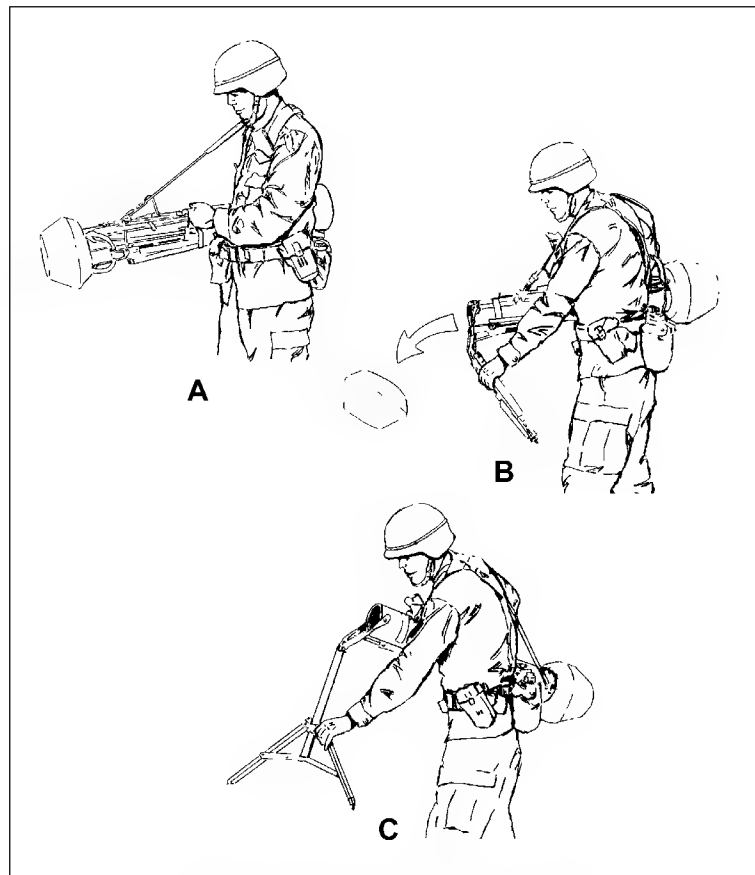

Figure 2-2. Releasing the bipod.
a. **Releasing the Bipod.** Unsnap the bipod-retaining strap (A, Figure 2-2, page 2-3). Push the bipod forward until you feel resistance. Snap off the forward shock absorber. Ensure that the desiccant bag, attached to the forward shock absorber, is not lodged in the launch tube (B, Figure 2-2, page 2-3). While still holding the round, depress the bipod friction lock. Push the bipod legs downward to number 4 or 5, then release the friction lock (C, Figure 2-2, page 2-3).